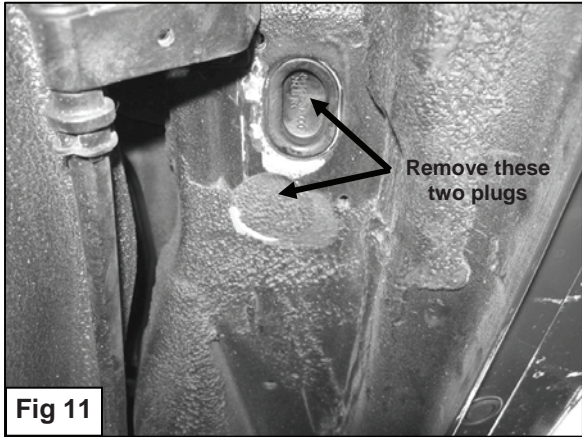

Fig 11
14. Starting on the driver side, remove the oval shape rubber plug and the round plastic plug located in the rear side of the floor panel(**Figure 11**). Use a flat screw driver to remove the plastic plug. **NOTE:** This plastic plug is covered with tar and is very hard to find it. Push on the rear side of the oval shape hole until you feel a soft spot.